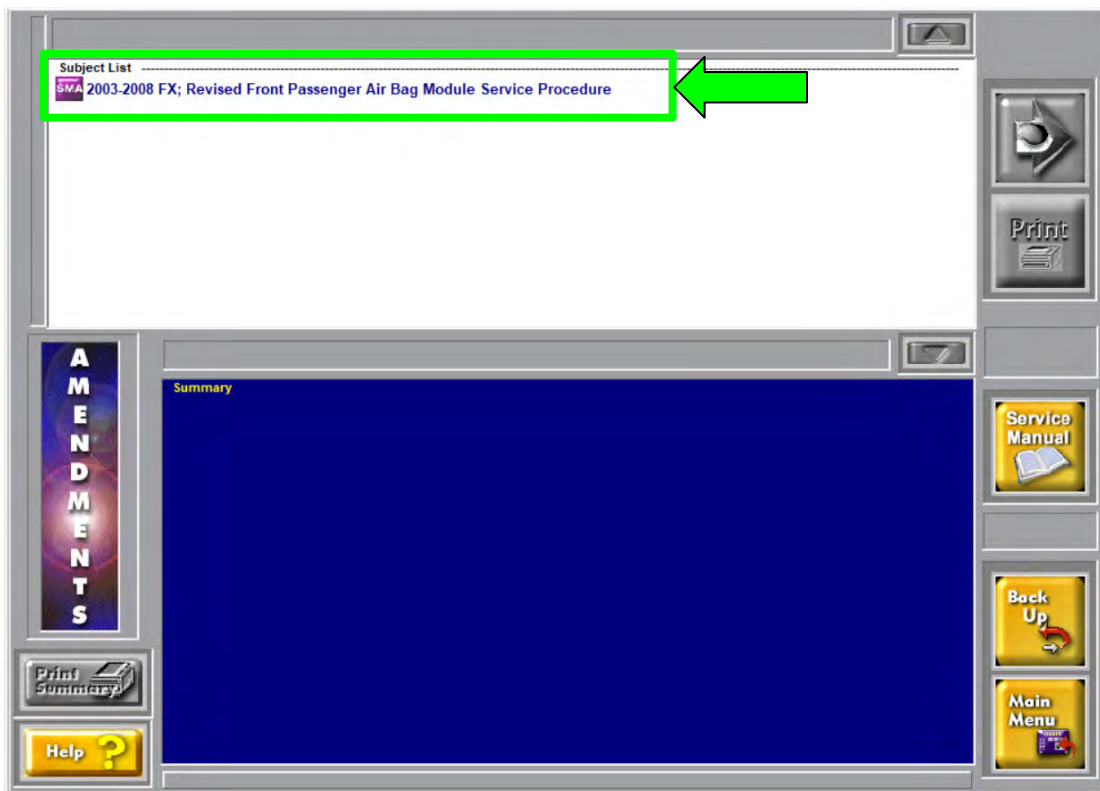

Figure 19
- On the next screen, select **SMA 2003-2008 FX; Revised Front Passenger Air Bag Module Service Procedure** (Figure 19).